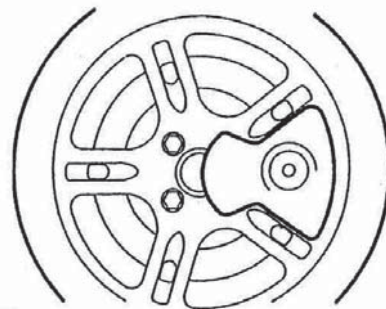

Fig.10
- The AL-KO Secure is now fitted. **(Fig 10)**